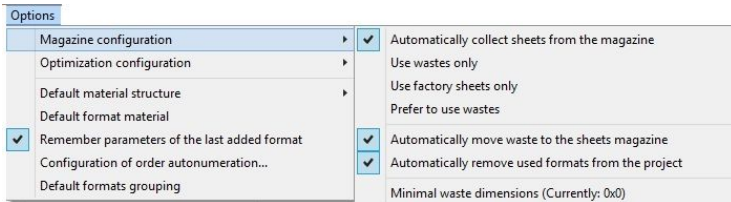

Fig. 32 – options of configuration of the magazine with enabled **'Automatically collect sheets...'** function
- **'Automatically collect sheets from the magazine'** – causes automated collection of optimal quantity of boards from the sheet magazine to the current order. You can set the priorities of sheet collection, such as: **only full sheets** (factory boards), **only wastes** or **wastes first** (these options become available after selection of the **'Automatically collect...'** option - Fig. 32). If you do not define the priority, the program will collect the most optimal number of boards, both factory sheets and wastes. When you enable the automated collection, the list of sheets disappears from the CAD Cut main window.